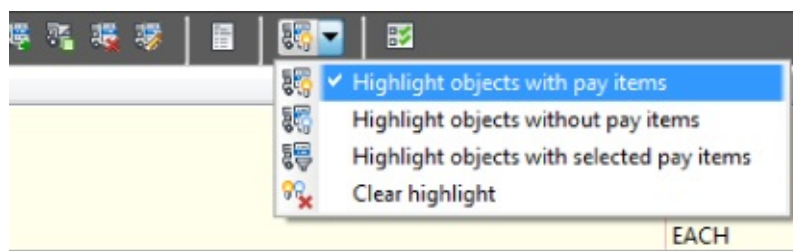

Figure 17.19 Turning on highlighting for objects with pay items assigned
3.  In the QTO Manager, select Highlight Objects With Pay Items, as shown in Figure 17.19.
20. Select item 62601-0100 and click OK.
22. In the QTO Manager, select Highlight Objects Without Pay Items from the drop-down menu shown previously in Figure 17.19.